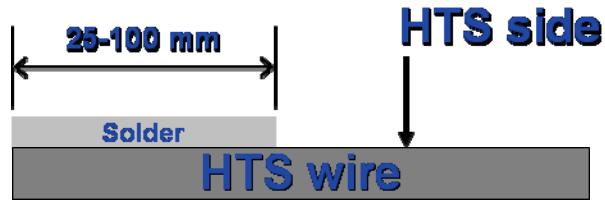

Figure 3. Tinned Wire for Overlap Joint
- c. With the soldering iron set to the appropriate temperature, “tin” the fluxed portion of the wire with a thin coating of solder over the desired length as shown below in Figure 3.